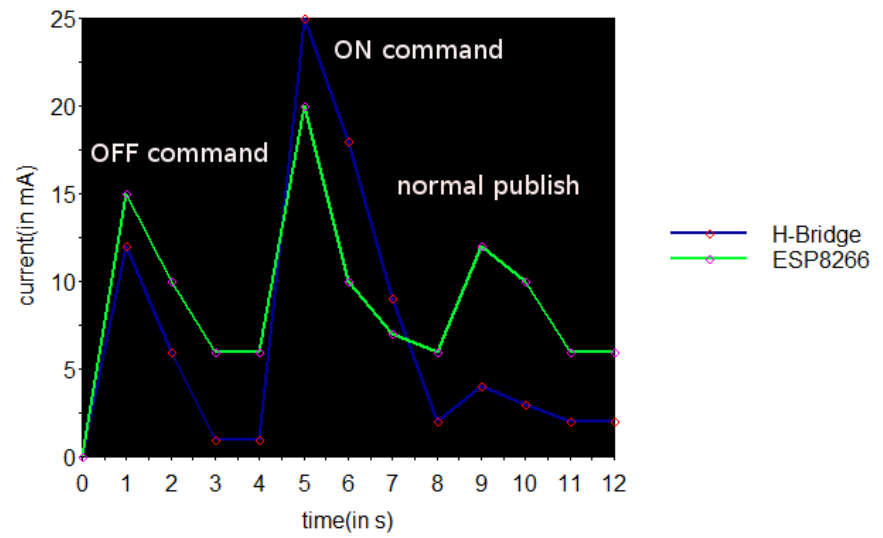

Figure 3: Breakup
- A graph showing the breakup between the average current consumed by the H-bridge(theoretical) and the ESP8266 module. Refer figure 3